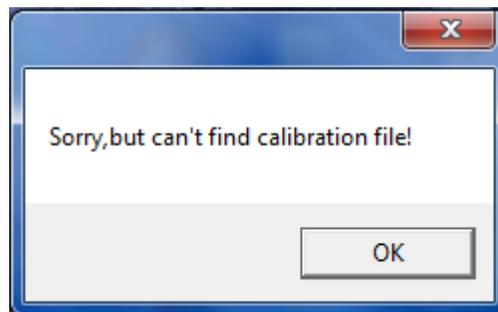

Figure 6 Needs to copy Calibration file
*If clicking on the TSA ICON for Desktop, the “Sorry but can’t find calibration file!” warning appears, **Figure 6**. It means the **amp_ofst.dat** and **freq_ofst.dat file** from CD is missing in the data folder.